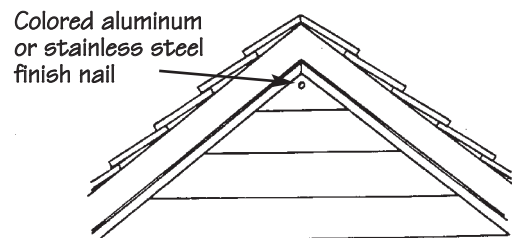

Figure 47.
- It may be necessary to fasten the last panel at the gable peak with a trim nail. Use a 1 1/4" to 1 1/2" nail. This is the only time a nail should be placed in the face of the vinyl siding (Fig. 47).